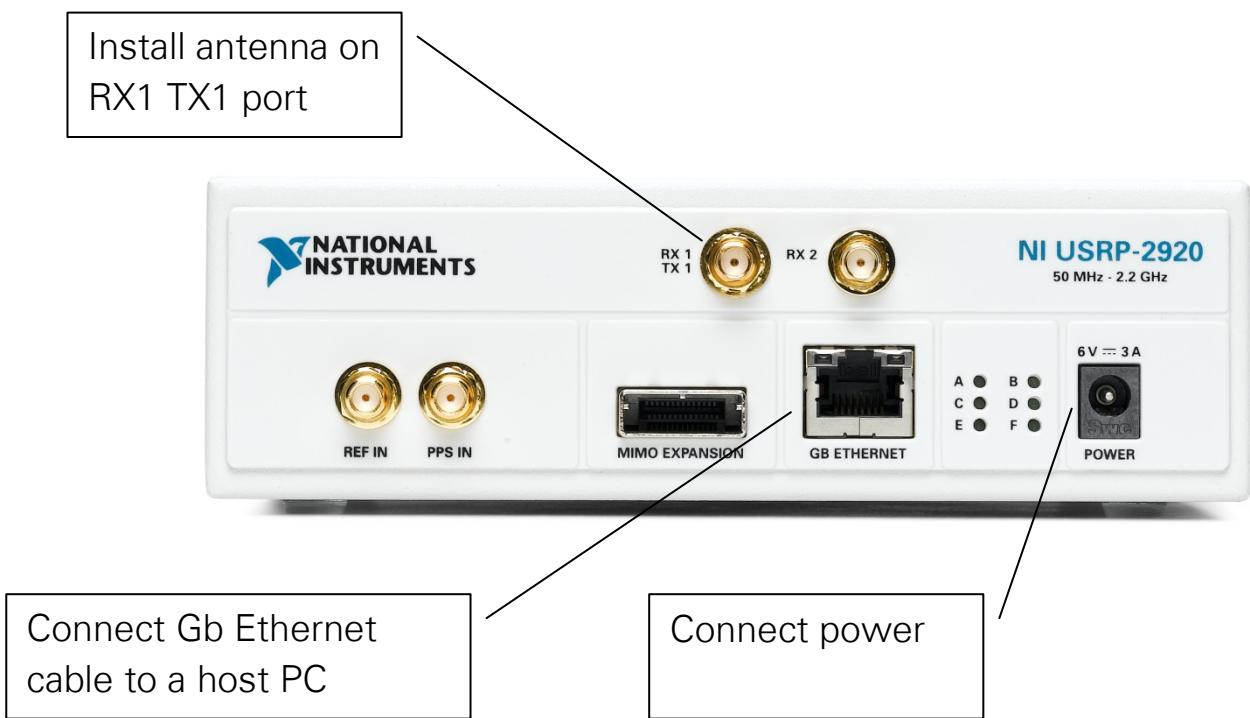

Figure 1. USRP Front Panel
2. Referring to Figure 1, attach the antenna to the front of the NI USRP-292x.